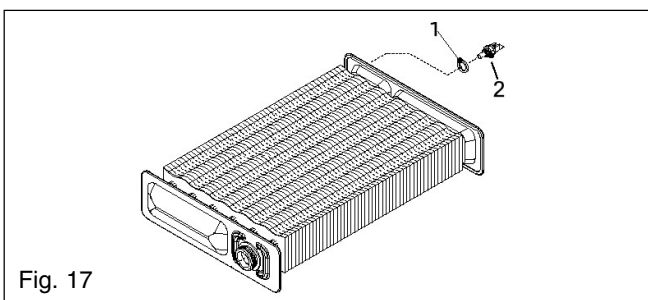

Fig. 17
6.10 PRIMARY THERMISTOR fig. 17